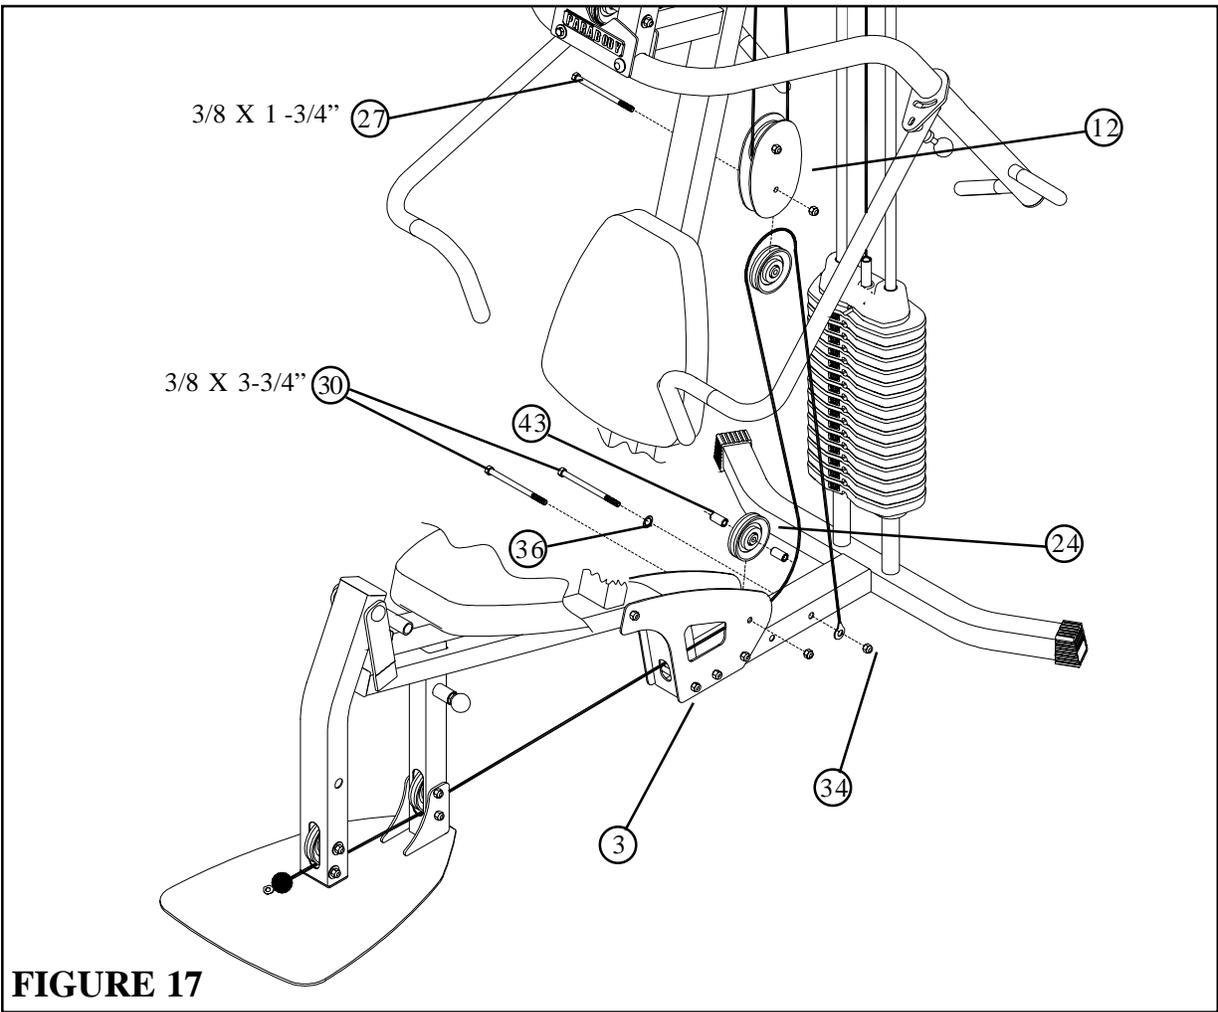

**FIGURE 16**
- [CABLE MUST BE POSITIONED BETWEEN PULLEY AND LOWER BOLT ASSEMBLY ON LEG PEDESTAL (11) AND FRAME (1)]
- Securely assemble the ball end of the LOW CABLE (21) and one 3-1/2” PULLEY (24) to the LEG PEDESTAL (11) using two 3/8 X 3-3/4” BOLTS (30), two 3/8” X 1-1/16” FLANGE SPACERS (42), two 3/8” WASHERS (36), and two 3/8” LOCKNUTS (34). (NOTE: The LEG CABLE (21) should be routed over the retaining bolt as shown in FIGURE 16.)
- Securely assemble one 3-1/2” PULLEY (24) to the FRAME (1) using one 3/8 X 3” BOLTS (29), and one 3/8” LOCKNUT (34). (NOTE: The LEG CABLE (21) should be routed over the retaining bolt as shown in FIGURE 16.)